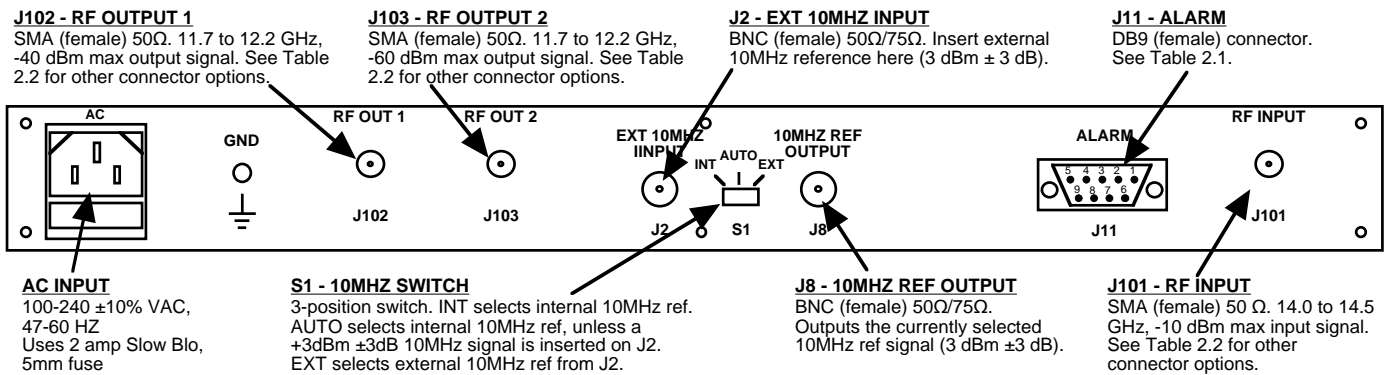

FIGURE 2.1 2116-14T12 Rear Panel I/O's
Figure 2.1 shows the input and output connectors on the rear panel.
1. Connect a -30 dBm to -10 dBm signal to RF INPUT (J101) (Figure 2.1).
5. Select either INT (for internal 10MHz ref), AUTO (for internal 10MHz ref UNLESS an external 10MHz, 3 dBm signal is connected to J2), or EXT (for external 10MHz, 3 dBm ref that is inserted at J2) using the rear panel 3-way switch, S1 (Figure 2.1).
7. Check that a 10MHz, 3 dBm \pm 3 dB signal is present at the 10MHZ REF OUTPUT (J8) (Figure 2.1).